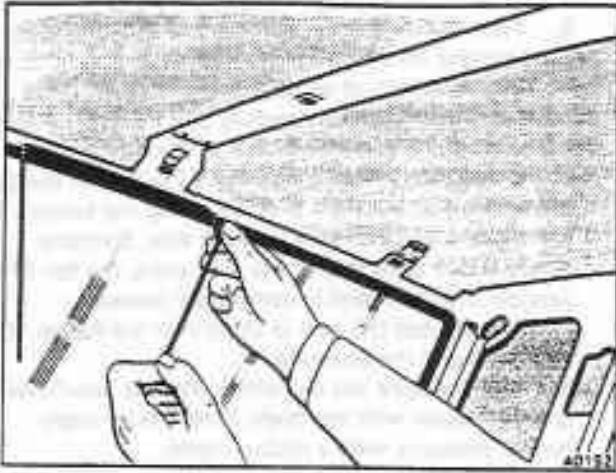

Fig. S11-7 Fitting the rear window
10. With the help of an assistant pressing on the outside of the window, carefully pull the looped cord at the bottom of the window so that the seal is drawn over the aperture flange (see fig. S11-7). Pull the cord alternatively to the right and left, along the bottom of the window and half-way up each side. Similarly, carefully pull each end of the cord along the top of the window until the cord is completely removed.